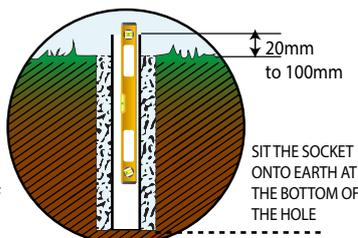

Fig 2.
- 2b. For a temporary installation use a ground auger and pack with sharp sand and soil to secure the ground socket, use a level to check the socket is vertical and plumb checking at intervals as you infill the hole. Make sure there is a maximum of 20mm, maximum of 100mm of socket left above ground. (Fig 2)